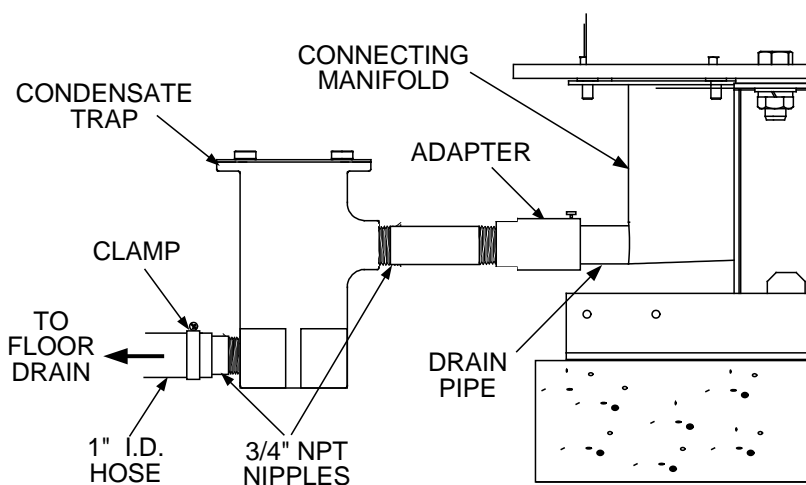

Figure 11. Connecting Manifold Condensate Drain Location
8. Check the condensate drain pipe on the connecting manifold (Figure 11) to ensure it is clear of blockage.
12. Replace the condensate trap cover and tighten the four (4) thumb screws.
14. Reconnect the trap to the connecting manifold drain pipe using the trap adapter (Figure 11). Tighten the adapter thumb screw.